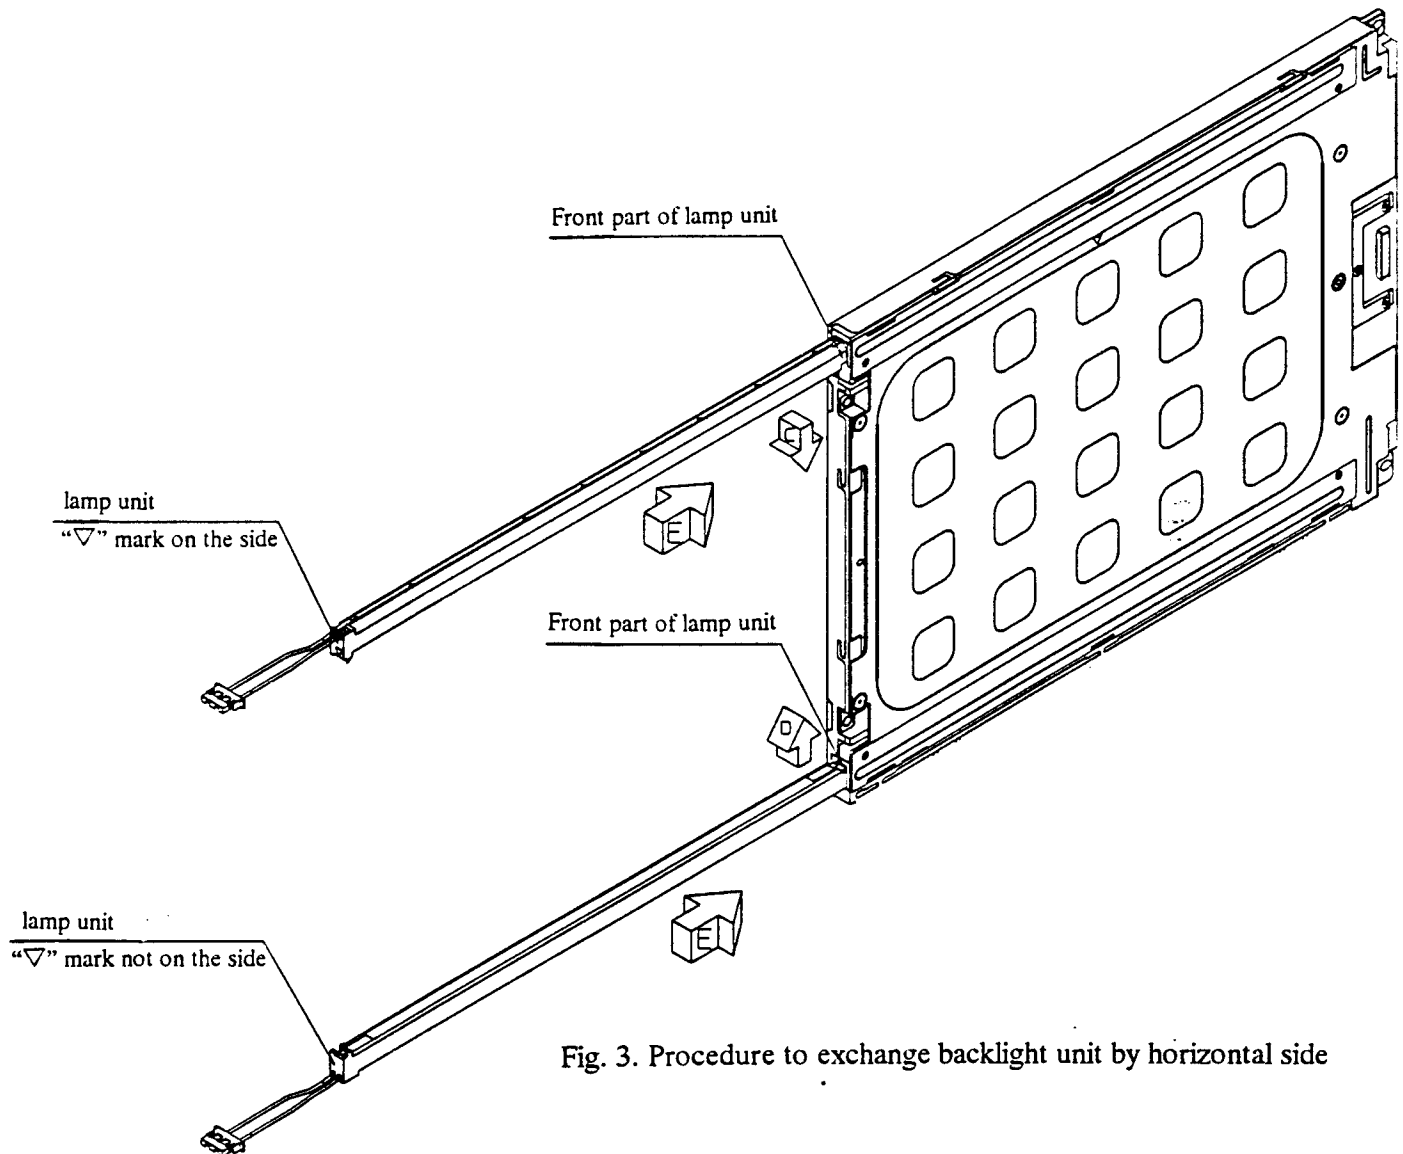

Fig. 3. Procedure to exchange backlight unit by horizontal side
8-1) By Horizontal Slide(refer to Fig.2 and Fig. 3)
- ② Replace the new lamp unit with the one that has a marking "▽" on the surface. And the other new unit with no marking on it. Insert both lamp in the direction "C" When inserting the lamp, push the light guideplate, located inside the LCD module, in the direction " C " or " D " so that the lamp unit can be inserted smoothly. Then insert in the direction " E. " (refer to Fig. 3)
- ③ Please insert the lamp with care while replacing. Please be careful for any dust that goes in. Please make sure that the lamp unit is in all the way. You can hear the sound " click", if the Lamp unit is placed in the right position.
- ④. Not only one side ,both lamps should be exchanged.